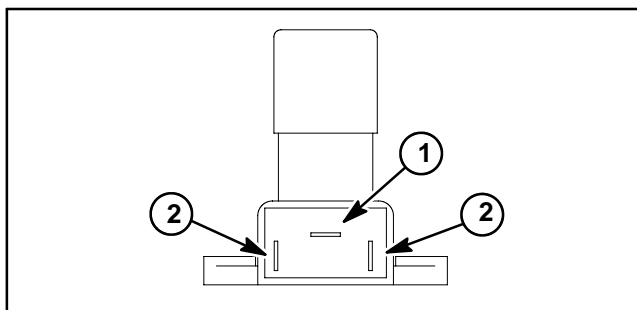

Figure 33
3. The switch terminals are shown in Figure 33. Continuity should exist between the common terminal and only one of the side terminals. When the switch is depressed, continuity should exist between the common terminal and the other side terminal. Regardless of switch position, there should never be continuity between the two side terminals.